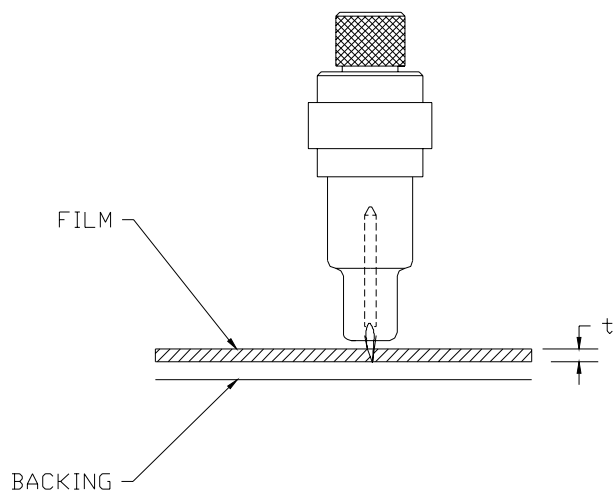

FIGURE 1-5
3. Extend the tip of the blade according to the distance required for the desired cutting media (†), as shown in Figure 1-5. The blade should only extend beyond the knife holder sufficiently far to cut completely through the film layer while not piercing the backing, which would put the cutting strip at risk of being damaged.